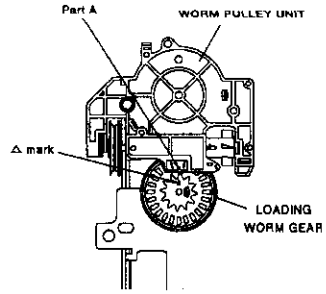

Fig. 2-17-4
- 4 Install the WORM PULLEY UNIT so that the A mark on the LOADING WORM GEAR shown in Fig. 2-17-4 matches with the part A of it.